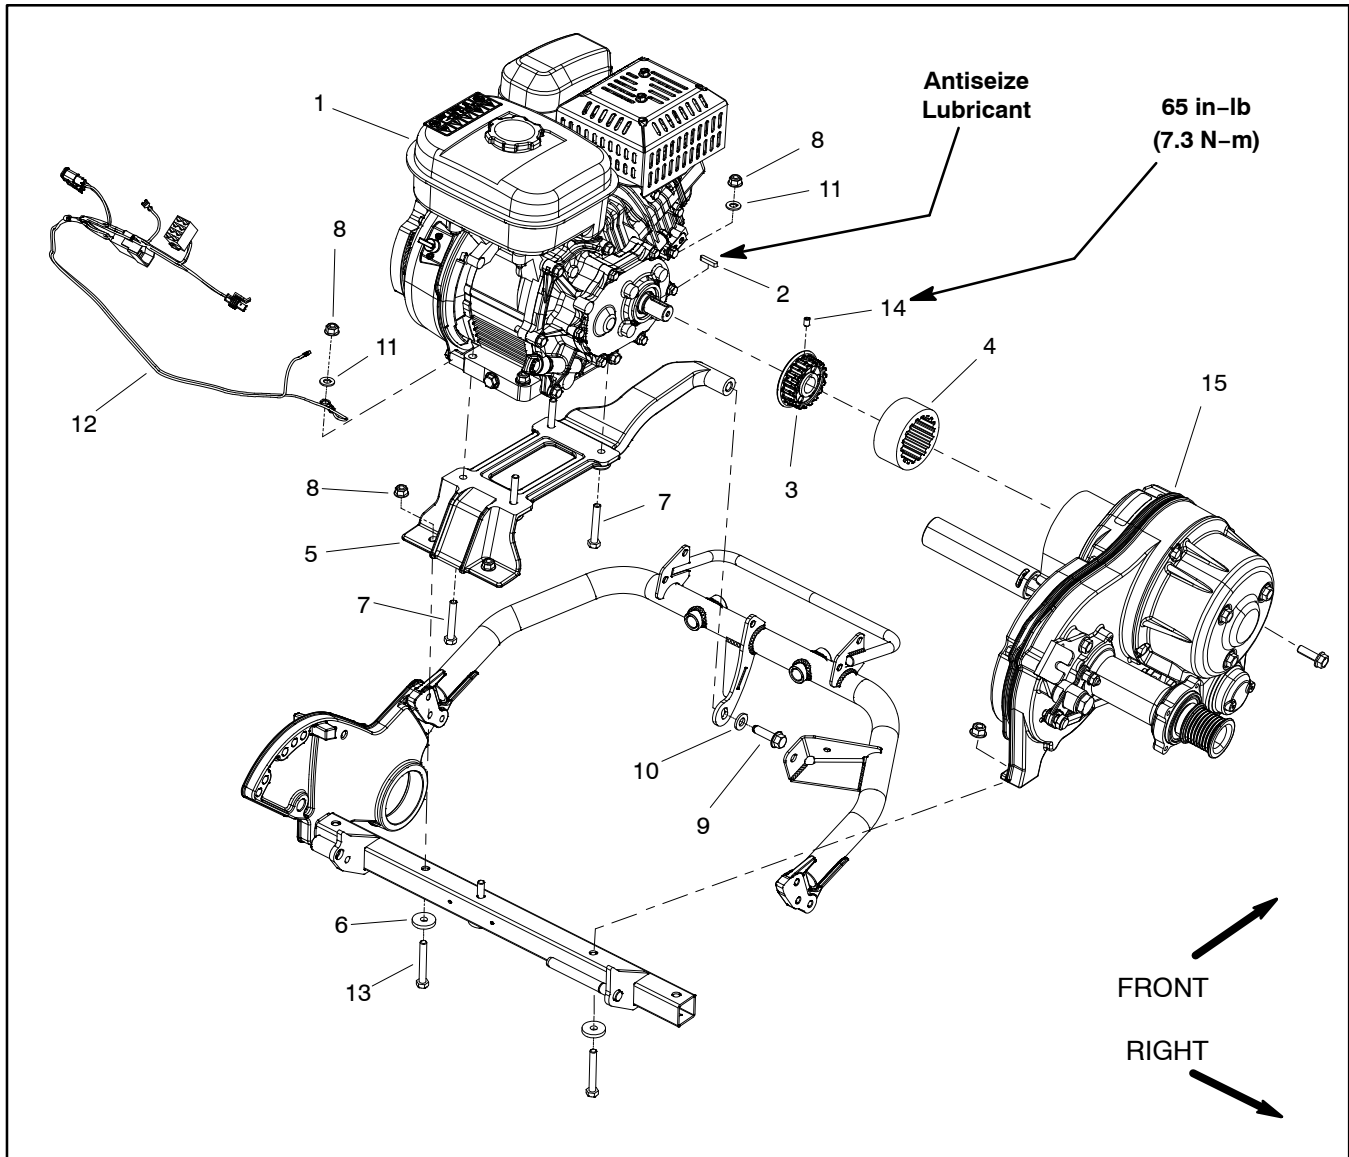

Figure 5
Engine Removal (Fig. 5)
B. Disconnect wire harness ground wire from engine by removing LH rear cap screw (item 7 in Fig. 5), flat washer (item 11 in Fig. 5) and flange nut (item 8 in Fig. 5).
A. Remove two (2) cap screws (item 13), hardened washers (item 6) and flange nuts (item 8) that secure rear of engine base to rear frame.
C. Remove flange head screw (item 9) and hardened washer (item 10) that secure engine base to frame.
D. Carefully move engine and engine base assembly away from transmission so that engine coupler (item 3) slides out of coupler sleeve (item 4). Once engine coupler is removed from sleeve, remove engine base assembly from machine.
A. Remove cap screws (item 7), flat washers (item 11) and flange nuts (item 8) that secure engine to engine base.
7. If necessary, remove two (2) set screws (item 14) that secure engine coupler (item 3) to engine output shaft. Slide coupler from shaft. Remove square key (item 2) from engine output shaft keyway.
Engine Installation (Fig. 5)